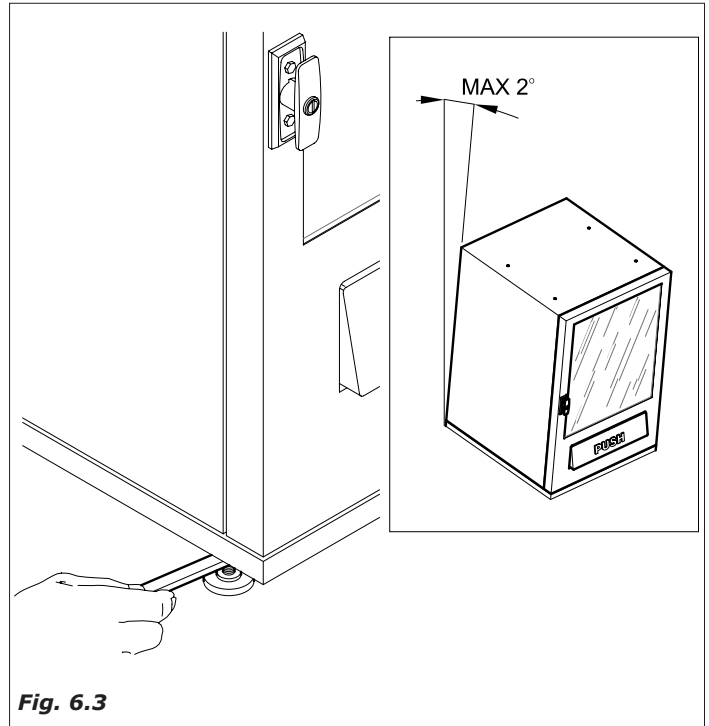

Fig. 6.3
- Position the distributor and level it using the pre-mounted adjustable feet (Fig.6.3). Make sure that the distributor does not have an inclination of more than 2°.